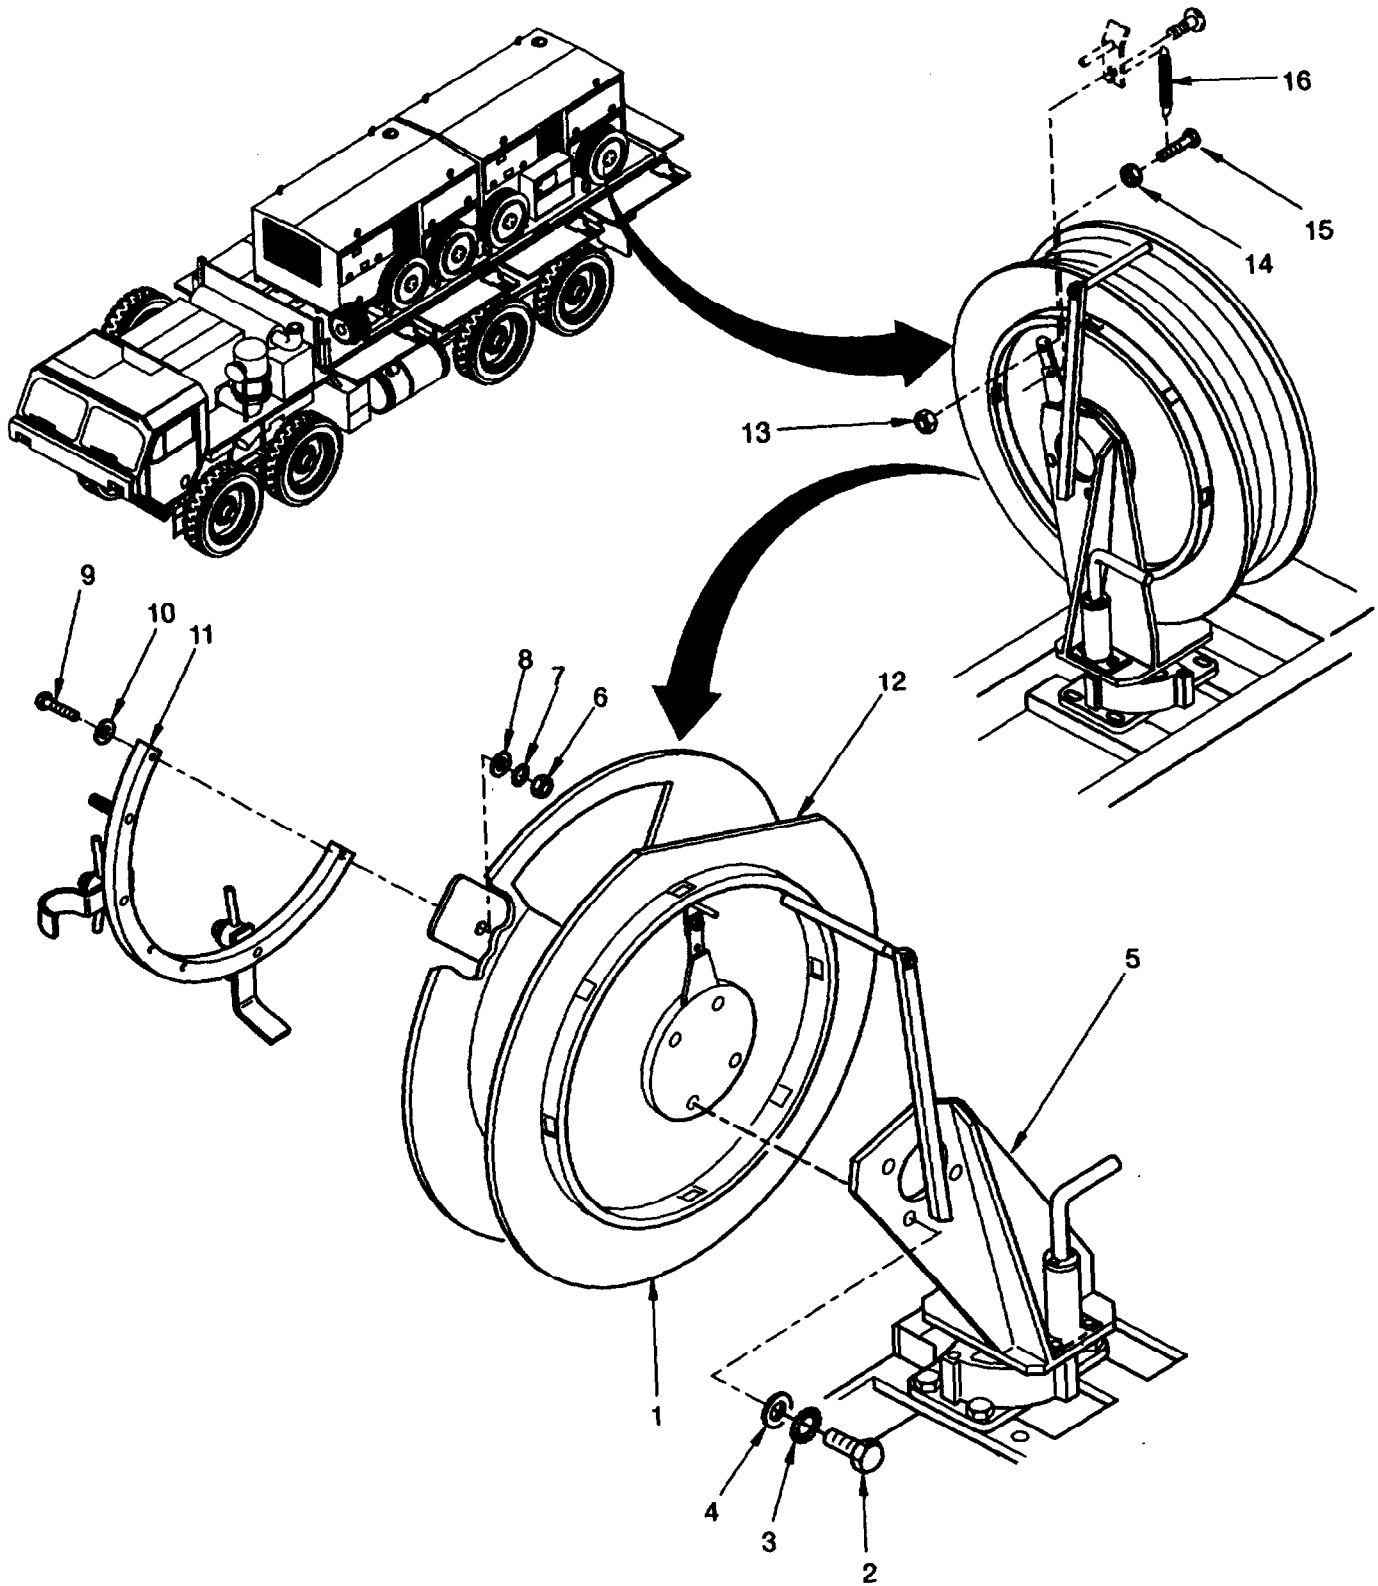

Figure 4-15 Power Cable Drum.
- The four power cable drums are identical. But drum (1) has a bevel (12).
- a. Grasp cable drum (1, figure 4-15), release ratchet, and slowly allow cable drum to run out 15 revolutions until it is completely detensioned.
- b. Remove four screws (2), serrated lock washers (3), washer (4), and cable drum (1) from carrier (6).
- c. Remove nuts (6), serrated lock washers (7), washers (8, 10), screws (9), and cable drum bracket (11) of cable drum (1).